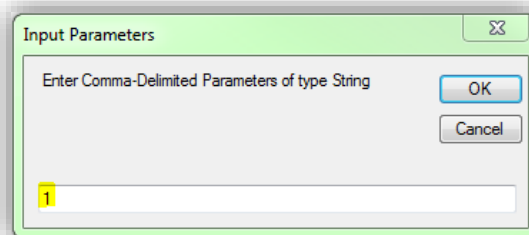

Figure 11 - setChannel function channelNum parameter
4. You will be presented with a dialog box that will ask for a channel number to be entered, this can be a value from 0 through to 15 (see Figure 11). Provide a valid channel number, click OK, and then OK again to transmit the setChannel command to the Somfy RTS transmitter.